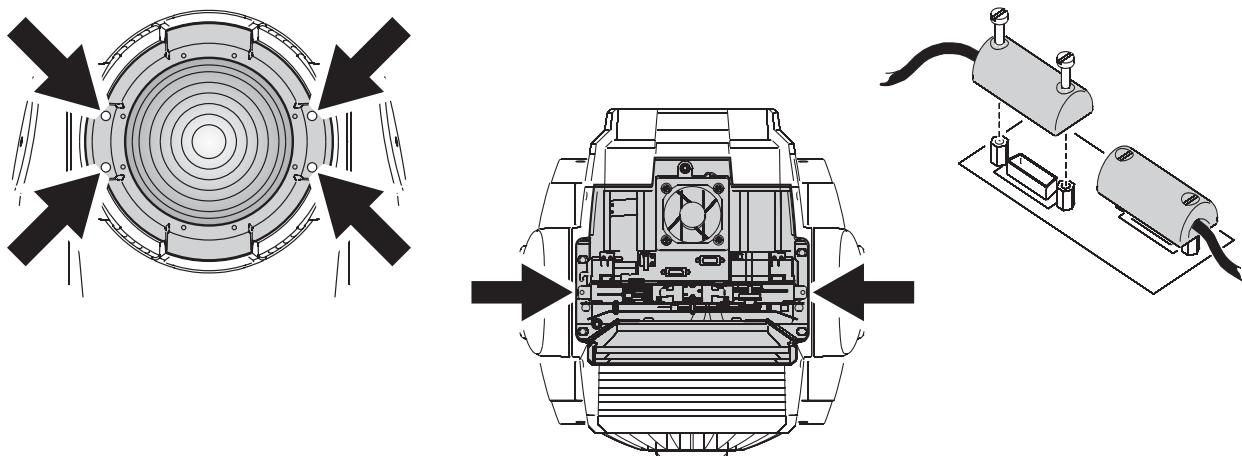

Figure 11: Removing the effects module
1. Remove the four retaining screws from the front lens ring (see Figure 11) and remove the front lens.
3. Loosen the screws in the two module wireset connectors as shown in Figure 11 before lifting the module away from the fixture.